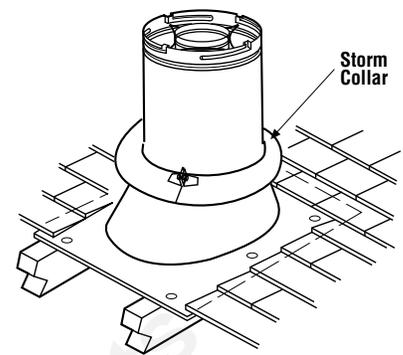

Figure 25
J. Install the storm collar - Install the storm collar, supplied with the flashing, over the vent/flashing joint. See **Figure 25**. Loosen the storm collar screw. Slide collar down until it meets the top of the flashing. Tighten the adjusting screw. Apply non-combustible caulking or mastic around the circumference of the joint to provide a water tight seal.